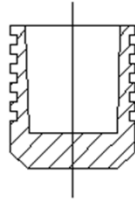

FIGURE 1A - PLUG
2. HOLE A (SEE FIGURE 2A) AND PLUG (SEE FIGURE 1A) SHALL BE CLEAN AND DRY.